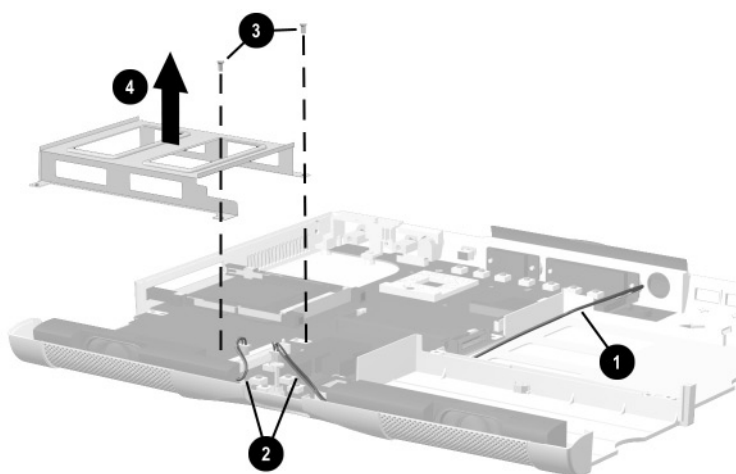

Figure 5-26. Removing the Hard Drive Bracket
2. Position the modem/NIC cable ❶ so it rests in the empty modular media bay in the base enclosure (Figure 5-26).
3. Disconnect the speaker assembly cables ❷ from the system board.
4. Remove the two silver M2 × 6.5 screws ❸ that secure the hard drive bracket to the base enclosure.
5. Remove the hard drive bracket ❹.